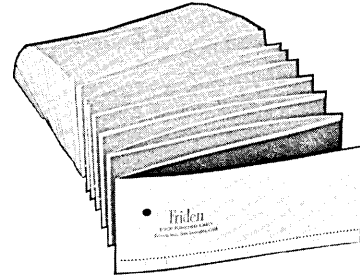

Figure 37. Edge Cards.
**Edge Cards** (See figure 37) - Used in Flexowriters equipped with the edge-punched card reader and/or punch. These cards are made of a superior, wear-resistant card stock to assure maximum life. They are available with marginal feed hole punching on either one or both sides. With reasonable care, each card has a life of from 800 to 1000 passes through the reader.